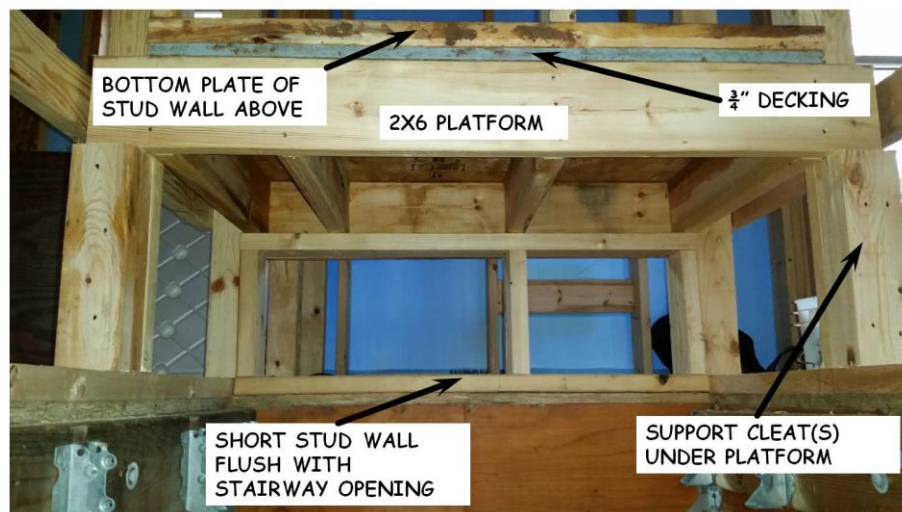
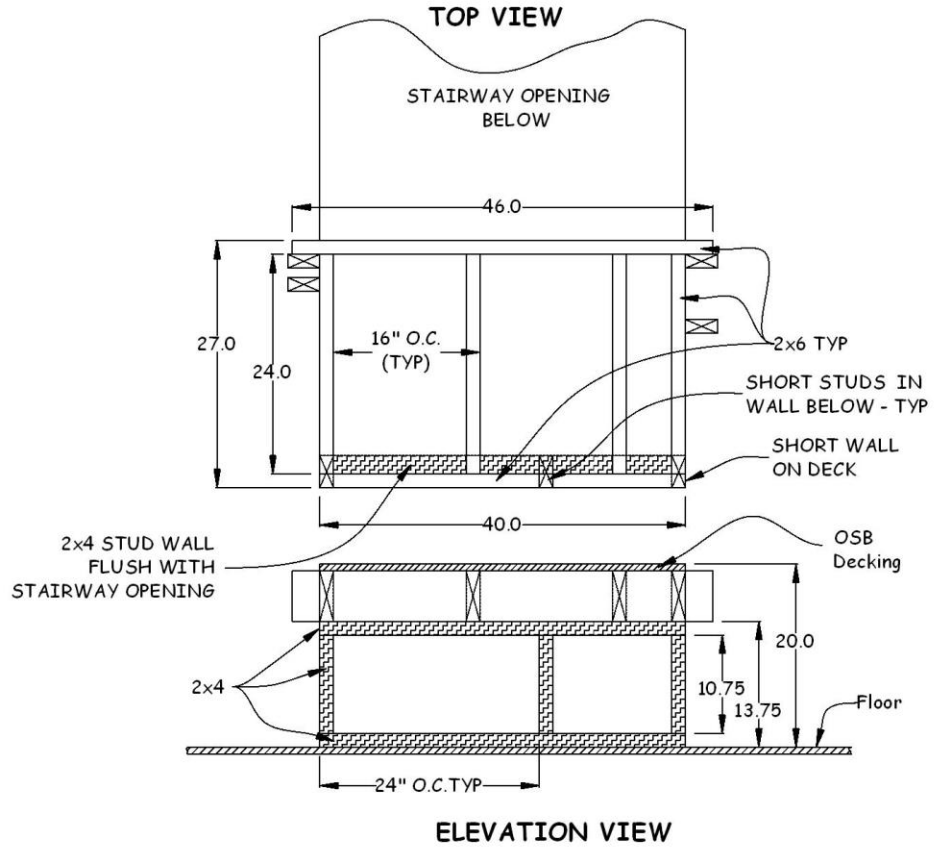

Figure 6-8. Closet Platform.
Figure 6-9. Closet Over Stairway.
3. Build a 27"x40" platform with 2x6 joists (16" o.c.) and ¾" OSB decking as shown in Figure 6-8. The stairway opening is typically 40" wide. Adjust the platform width if necessary to fit between the walls. The 2x6 that bridges the stairway opening on the cantilevered end should be 46" long so that it can be firmly supported with blocking or a stud inside the adjoining walls. Check the location of the wall studs to be sure that the 2x6 will not interfere on either side (see Figure 6-9). Once the platform is in place, with one end sitting on the short, 2x4 stud wall at the end of the opening, the other end will extend 24" over the opening. Adjust if necessary so long as the platform does not extend more than 24".